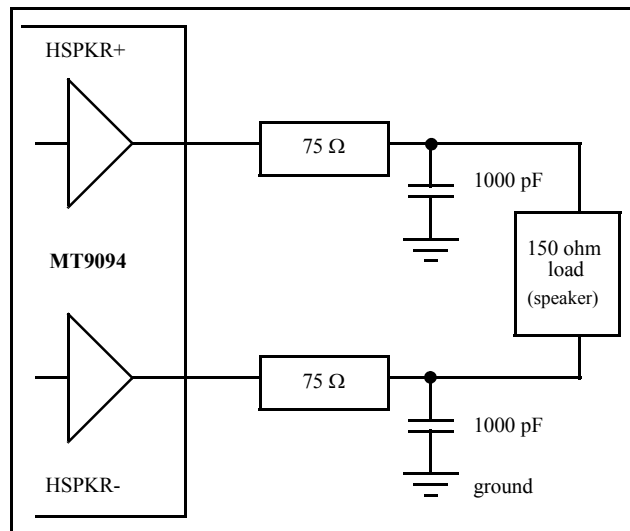

Figure 4 - Handset Speaker Driver
- The handset speaker outputs (receiver), pins HSPKR+/HSPKR-. This internally compensated, fully differential output driver is capable of driving the load shown in Figure 4. This output is enabled/disabled by the HSPKR EN bit residing in the Transducer Control Register (address 0Eh). The nominal handset receive path gain may be adjusted to either -12.3 dB (suggested for μ -Law) or -9.7 dB (suggested for A-Law). Control of this gain is provided by the RxA/u control bit (General Control Register, address 0Fh). This gain adjustment is in addition to the programmable gain provided by the receive filter and DSP.